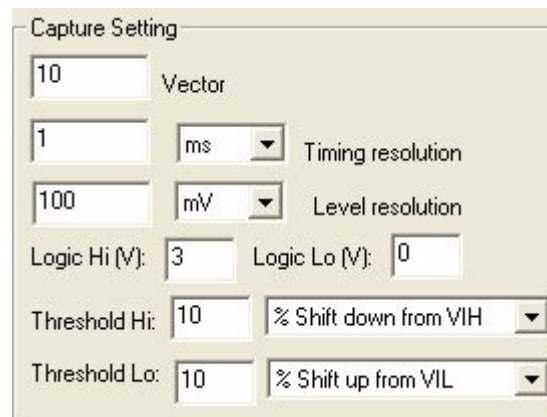

Figure 6-31. Waveform Setup Capture Setting Pane
- Capture Setting (Waveform Setup window Figure 6-31 on page 246):
- Logic Hi (V): For display purposes only, specifies the voltage level that will display for PEL level = 1 (pin electronics logic level).
- Logic Lo (V): For display purposes only, specifies the voltage level that will display for PEL level = 0.